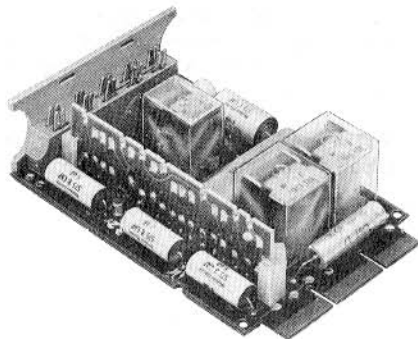

Fig. 1—Typical 4-Inch KTU
1.04 All circuit components on these KTUs are mounted in a plug-in printed wiring board, one end of which is equipped with contacts. A 4-inch board may have 18, 20, or 40 contacts; an 8-inch board will have 80 contacts (requiring two vertical 40-pin connectors). The circuit boards plug into mating connectors in key service units, panels, or apparatus mountings. Wiring from the connectors will be dedicated or nondedicated leads. Dedicated leads are those that normally appear on the same contacts of all KTUs, such as supply voltages and grounds, and are normally factory-wired. Nondedicated leads are those whose designation and function vary and are made available for installer connections. Figures 1 and 2 show typical 4- and 8-inch KTUs.